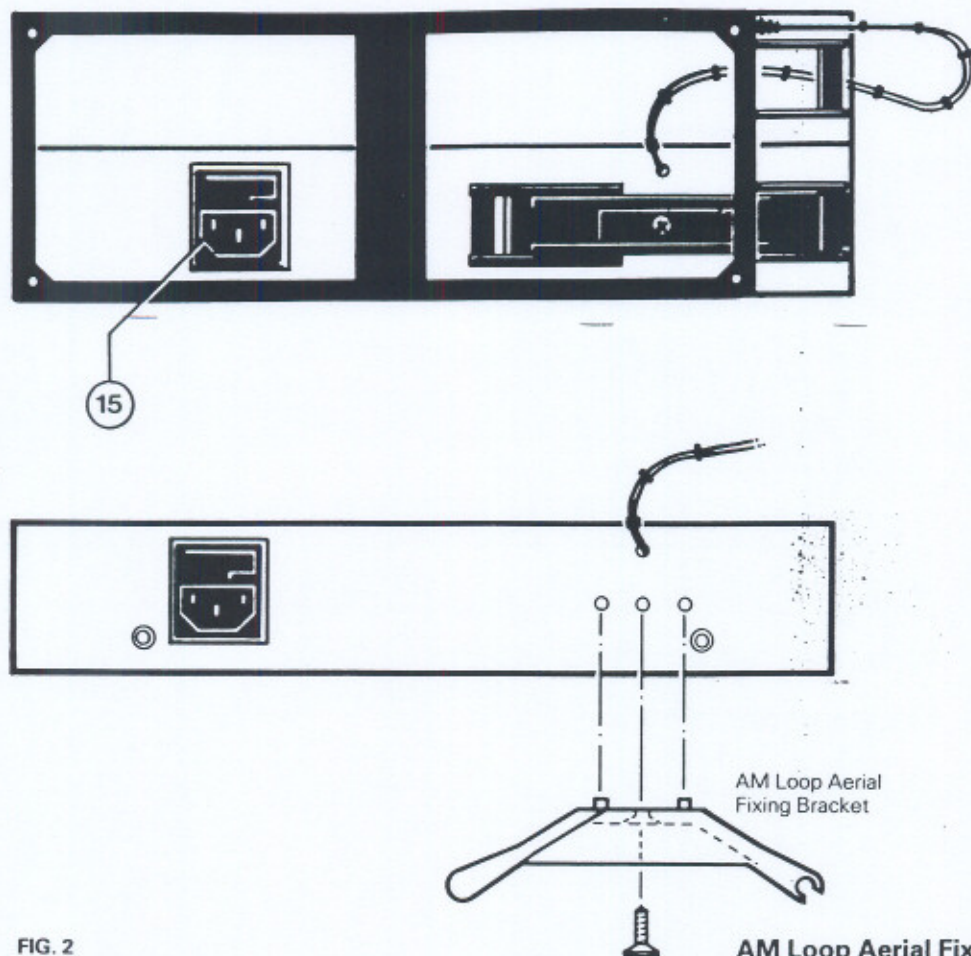

FIG. 2
- 7. Down Switch:** Depending on the mode selected by switch (6) the down switch, when pressed, will scan down through the frequency range or down through the preset memory locations.
- 8. Up Switch:** The same as (7) except scanning up.
- 12. AM Aerial Socket:** (AE) suitable for an external AM aerial. ground/earth socket (G) is provided which may help to suppress interference. Standard 4mm banana plugs should be used.
- 13. AM Loop Aerial Fixing Bracket:** For supporting the AM loop aerial. Fit to the rear of the Tuner as shown in Fig. 2, with screws provided.
- 14. AM Loop Aerial:** Integral aerial for the reception of strong AM signals. Adjust position for optimum performance. Refer to Fig. 2 for fitting details.